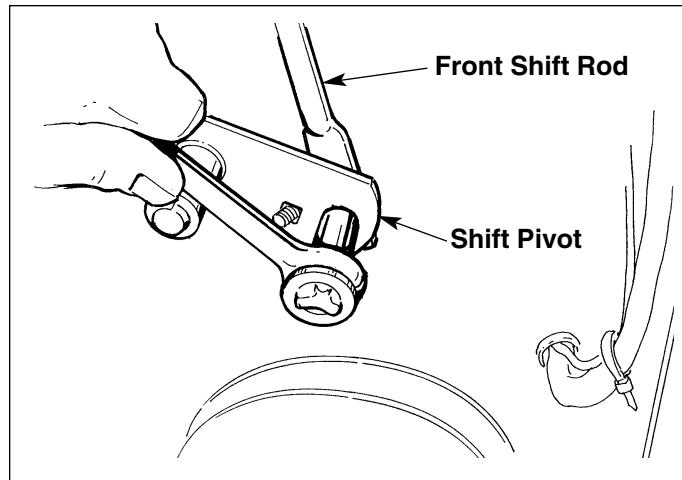

Figure B-23. Disassemble Shift Pivot/Front Shift Rod Assembly
7. See Figure B-23. Unscrew the hex nut and related hardware used to connect the shift pivot assembly to the front shift rod.